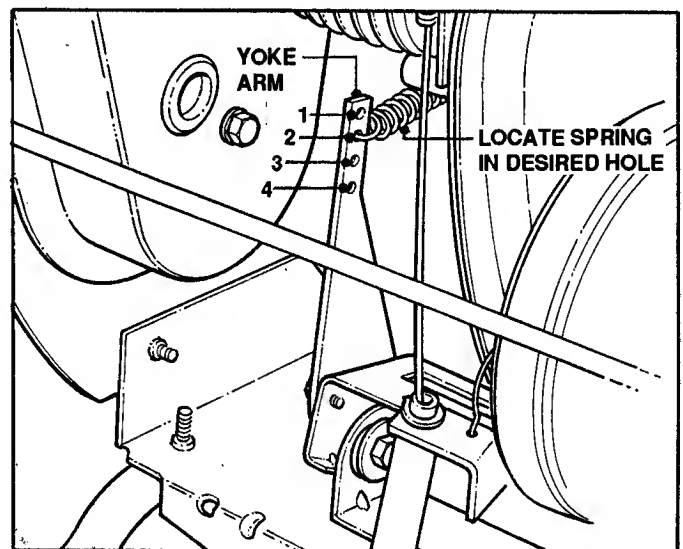

FIGURE 4.13
6. Move spring to first hole (for positive clutch action) to 4th hole (to increase clutch slippage). See Figure 4.13.